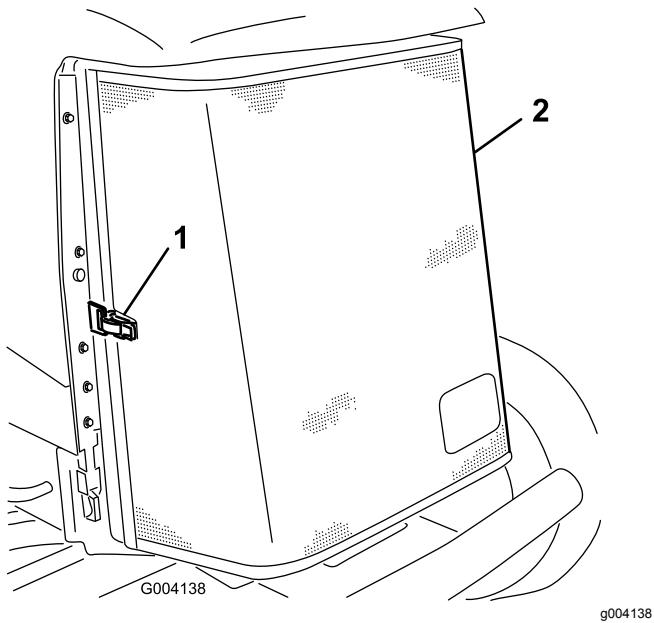

Figure 59
3. Unlatch the clamp and pivot open the rear screen (Figure 59).